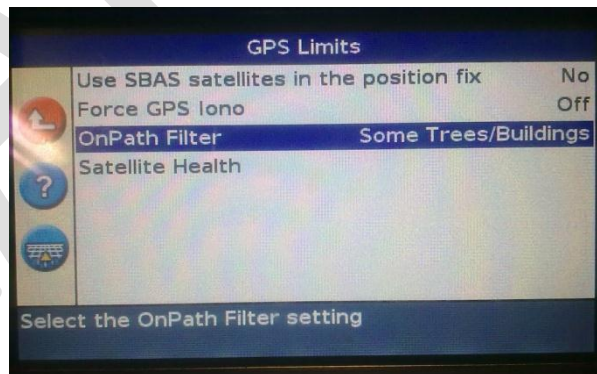

Figure 3.7
- The OnPath Filter should be set to match the area that the tractor is working in. Select **'Configuration (🔧), System, GPS, GPS Limits'** and then select OnPath Filter as shown in figure 3.7.